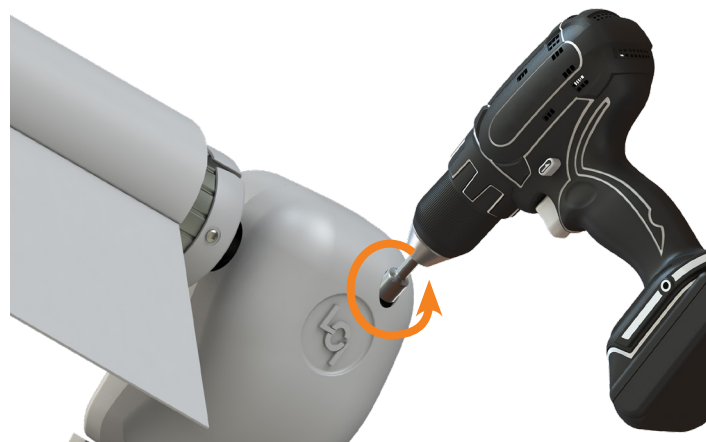

Fig.20
2. Using a $\frac{7}{16}$ " socket and cordless or electric drill or screw gun, spin the manual override nut counterclockwise to retract the awning (**Fig.20**).